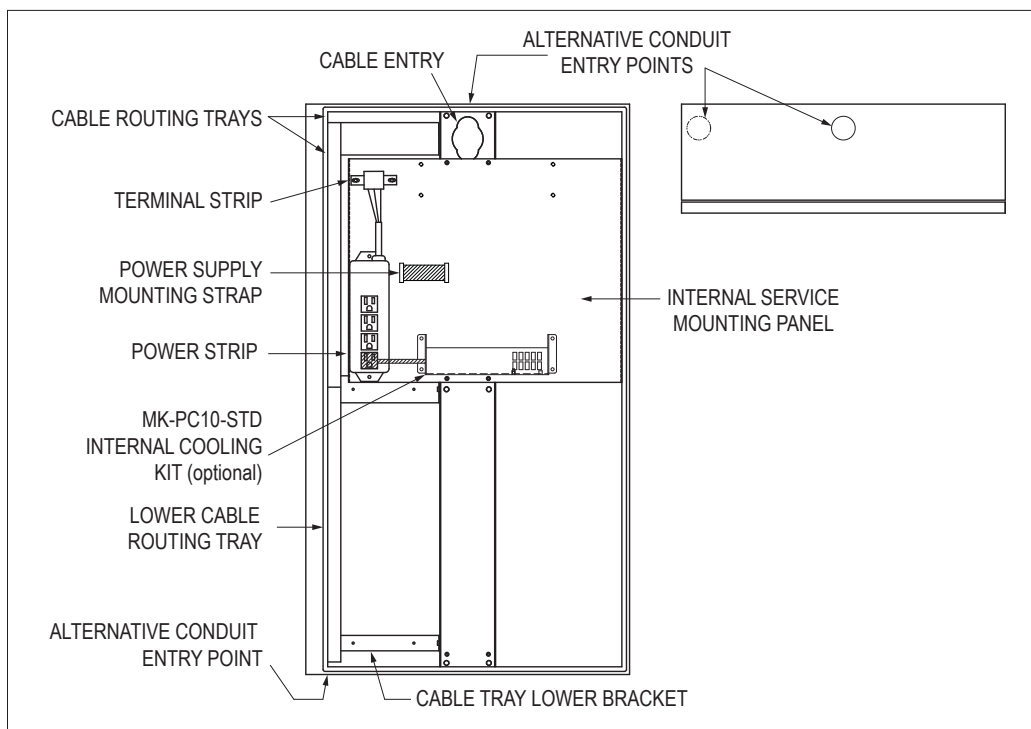

FIGURE 1 – INSIDE AND TOP VIEWS OF ENCLOSURE
1. Refer to Figure 1. A wiring entry hole is provided at the top center of the enclosure for use when pedestal or wall mounting the enclosure. If cables will not be going through the rear hole already provided, punch conduit holes as required.
NOTE: If punching conduit holes in the enclosure, place the hole(s) so that wires can be routed through the trays provided. See Figure 1 for alternative conduit entry points on the enclosure top, bottom, and rear walls. If necessary, remove cable routing covers and trays before drilling to avoid damage and to allow room for conduit installation. In wet environments, ensure that conduit entry points are adequately sealed.
- b. When using the optional Dell Optiplex XE2 mounting kit (part number MK-PC10-DELLXE2): Refer to Figures 1 and 5.
4. Refer to Figure 1. Install any additional equipment on the internal service panel. The panel can be removed for drilling as required.
NOTE: If you ordered the optional **MK-PC10-STD** internal cooling kit, install it on the service panel now, as shown in Figure 1. This cooling kit may be low-mounted, as shown in Figure 1, or high-mounted on the top mounting pattern on the service panel. Hook up power to the internal cooling kit by plugging the kit's AC cable into an outlet on the power strip. For non-North American power strips, connect power using the alternative cable that shipped with your internal cooling kit. Connect the cable to the kit, then connect the pigtail end to the AC input terminal blocks.
5. Refer to Figure 1. Remove cable routing tray covers and route the power cable to the power strip terminal block on the internal service panel. Route all signal cables (video, keyboard/mouse, serial, network, etc.) and AC power cables as required. For good internal air flow, all cables should be routed neatly through the trays.